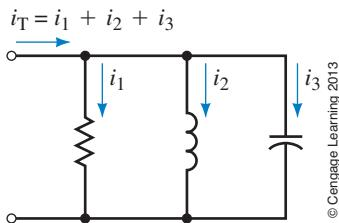

FIGURE 16-18
7. For Figure 16-18, determine i_T where $i_1 = 10 \sin \omega t$, $i_2 = 20 \sin(\omega t - 90^\circ)$, and $i_3 = 5 \sin(\omega t + 90^\circ)$.
8. If meters are used to measure the currents of Figure 16-18, what will be their readings?